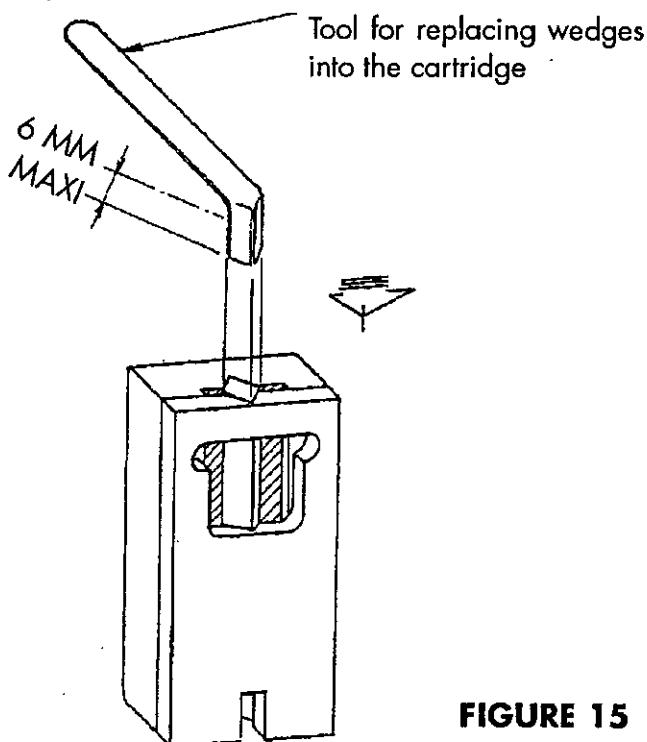

FIGURE 15
Periodically pull the H block out of the machine and, without taking it completely out, clean it (blow on it) (Fig. 15)
- Replace it into the cartridge using the G tool (FIG 15).
IF, AFTER "TROUBLE", THE STAPLE IS NOT ENGAGED IN THE MOULDING, THIS INDICATES THAT IT HAS REMAINED IN THE H BLOCK. IT MUST BE PUSHED AGAIN INTO THE LOADER USING THE G TOOL (FIG 15 PAGE 13). THE TOOL MUST NEVER BE INSERTED MORE THAN 6 MM INTO THE H BLOCK.